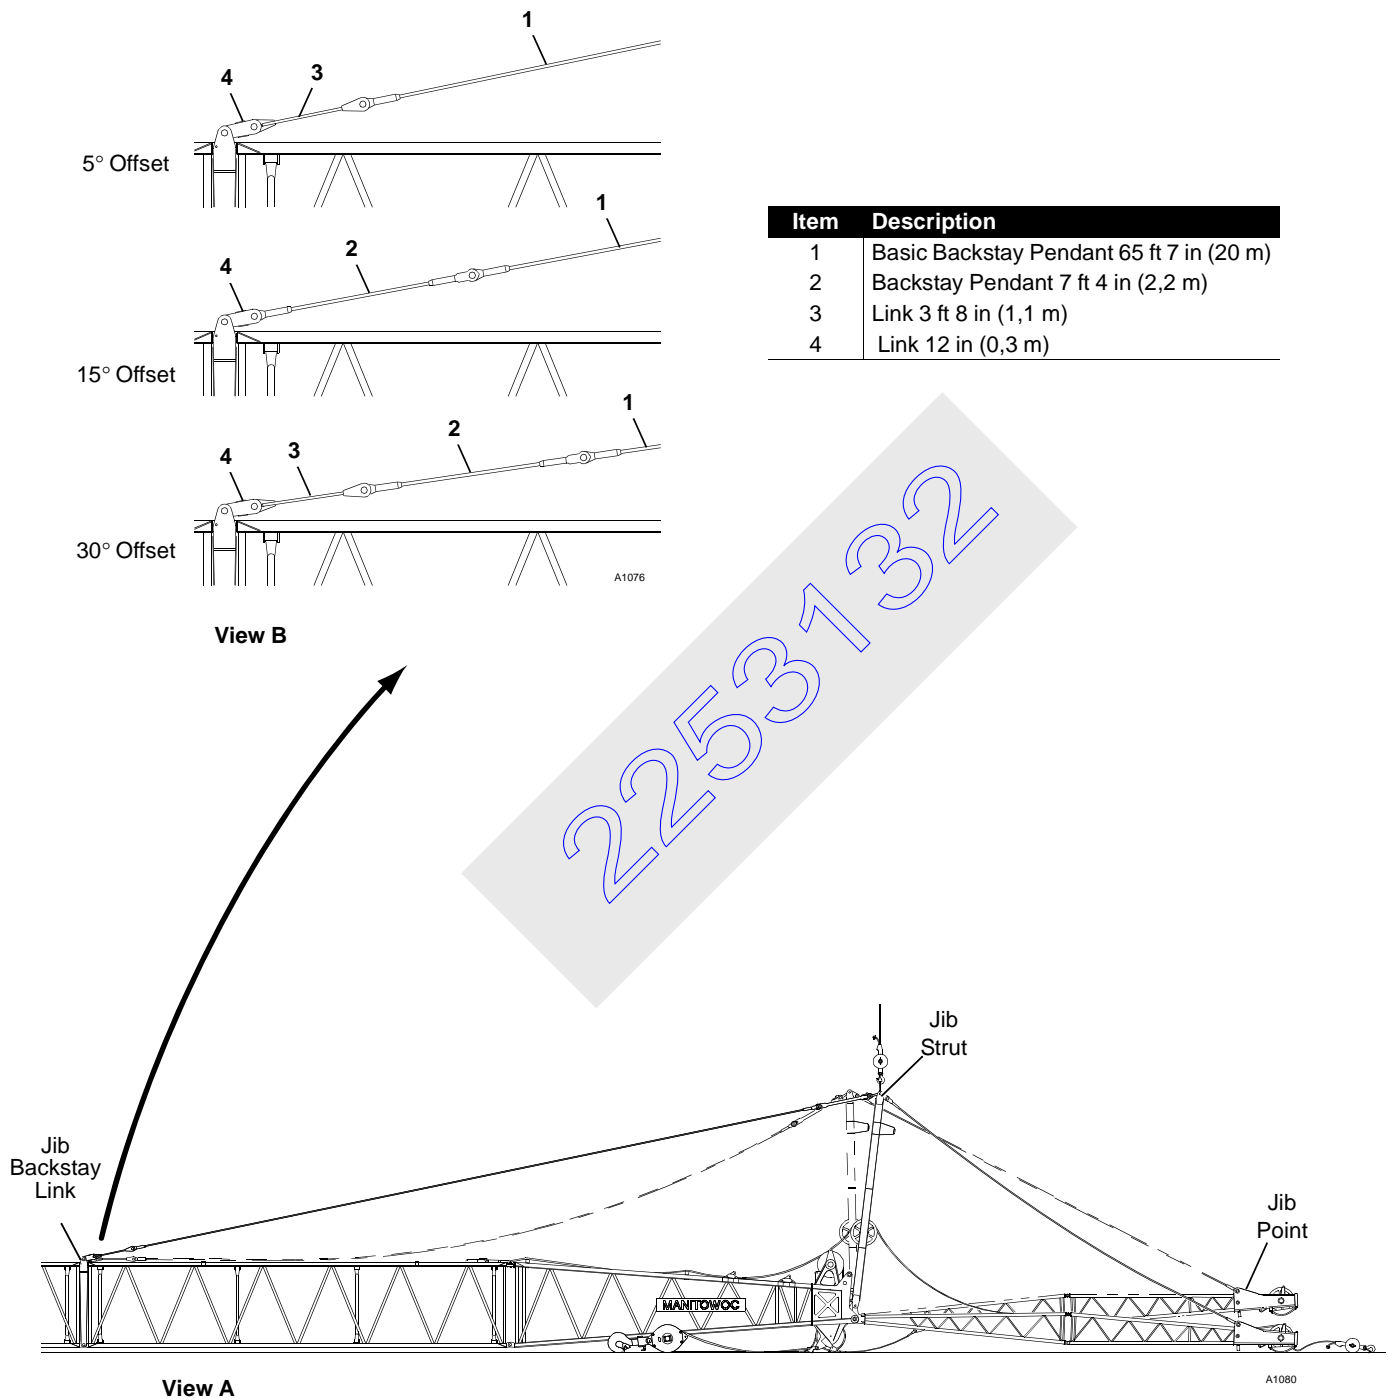

FIGURE 4-33
Jib offsets of 5, 15, and 30° are obtained by changing the length of jib backstay straps, links, and pendants as shown in Figure 4-33.
1. Determine pendants and links required for jib offset (2, 3, 4, Figure 4-33, View B).
NOTE: Backstay links (3, Figure 4-33, View B), if used, must be adjacent to connecting links (4).
3. Using assist crane or fork-lift truck, lift jib point approximately 3 ft (0,9 m) off ground and block (Figure 4-33, View A).
4. Using appropriate slings, attach hook from assist crane to top of jib strut (Figure 4-33, View A).
6. Pin jib backstay pendants (1) to links or pendants (2 or 3) previously pinned to boom backstay links (Figure 4-33, View B).
1. Using assist crane or fork-lift truck, lift jib point approximately 3 ft (0,9 m) off ground and block (Figure 4-33, View A).
2. Using appropriate slings, attach hook from assist crane to top of jib strut (Figure 4-33, View A).
3. Disconnect backstay pendants and links (Figure 4-33, View B) from backstay links. Lay pendants on ground along boom top.